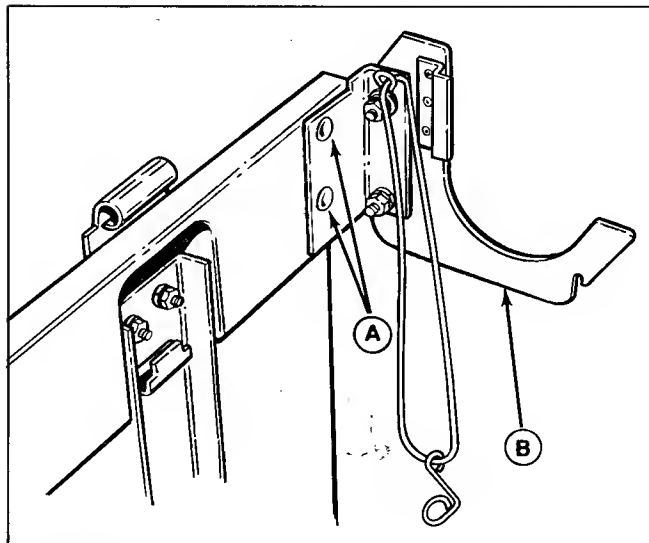

Figure 10.
11. Connect the elbow bracket (B, figure 10) to right-hand rear side of support plate by inserting 5/16-18 x 7/8" carriage bolts (A) from rear and then installing 5/16" lockwashers and nuts.